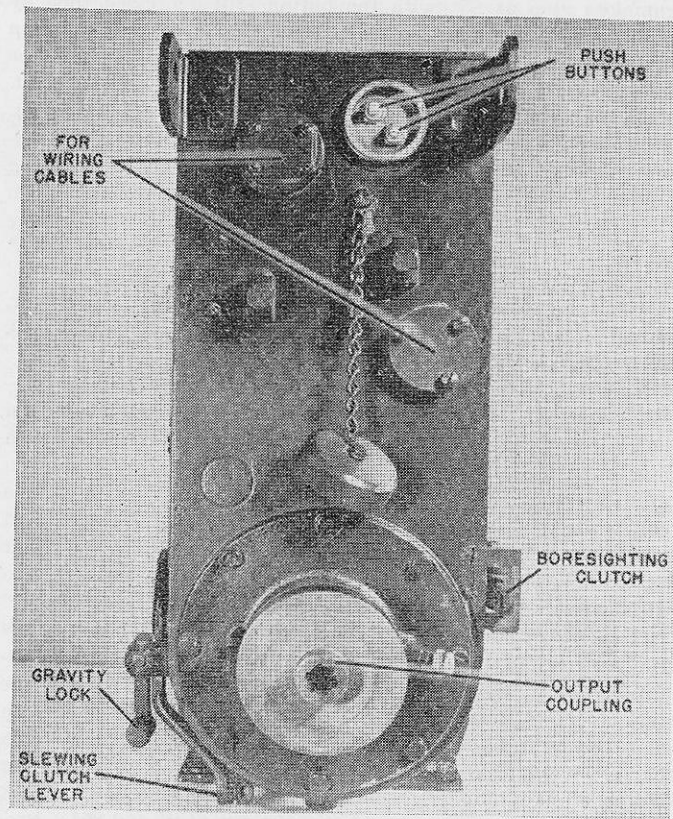
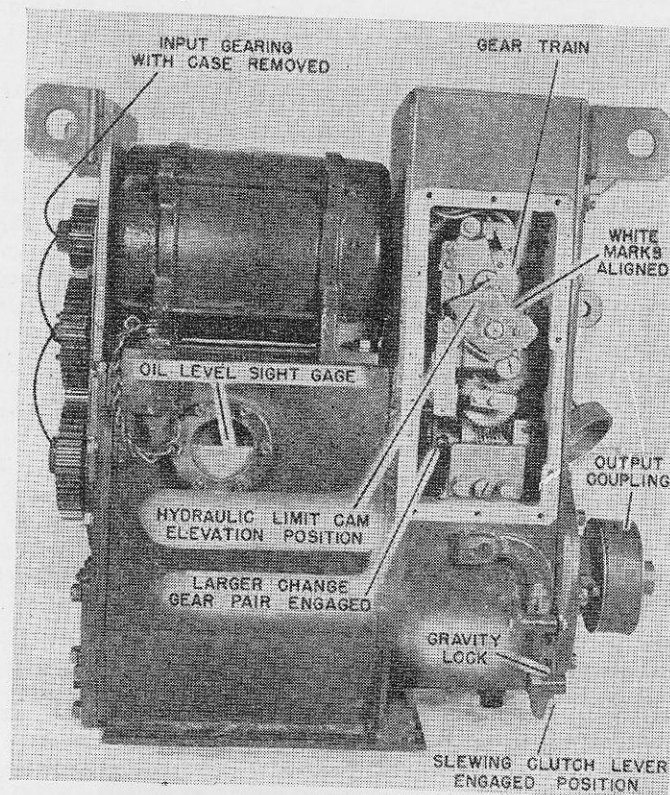
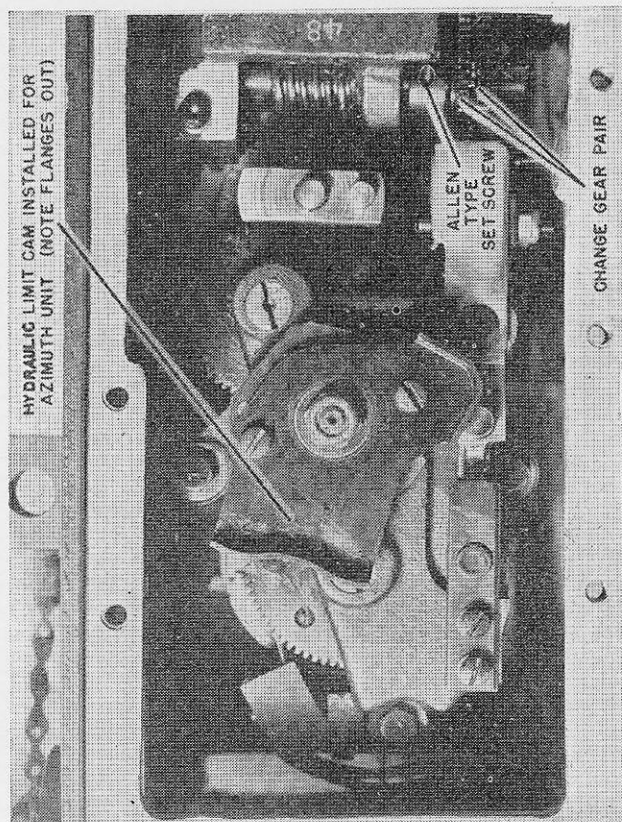

FIGURE 43.—Oil gear unit M3—rear view.
FIGURE 44.—Oil gear unit M3B1—left side view.
FIGURE 45.—Hydraulic limit cam installed for azimuth unit.
■ **136. ELEVATION LIMIT CAM (BY ORIENTATION).**—*Units fully self-synchronous.*—After cables are connected and unit is ready for orientation, disengage oil gear boresighting clutches (fig. 43). Hand crank the gun onto the aiming point and reengage the oil gear boresighting clutches. Orientation is now complete. Do not use the azimuth orienting clutch on the director. The elevation limit switch must remain open while the azimuth controls are being started to prevent generator overload. Power one, and then the other. To stop the remote control system, disengage gun slewing lever and electrical limit switch. Power switch at generator should be opened if both oil gears are off.
(1) Remove the left-hand side cover looking at the coupling end of the unit (fig. 44).
(2) Loosen the Allen type setscrew in the collar of the change gear pair (fig. 45).
(3) To make an azimuth unit slide the change gear pair to the right hand position so that the smaller gear of the sliding pair will then mesh with the right-hand gear on the hydraulic motor shaft. To make an elevation unit, slide the change gear pair to the left, so that the larger gear of the pair meshes with the middle gear on the hydraulic motor shaft (fig. 45).
(4) Check to be sure the proper mesh is obtained and tighten the lock screw securely.
(5) To make an elevation unit, turn the hydraulic limit cam (fig. 44) so that the flanges face inward and will then contact the roller of the limit mechanism. There is a point marked on the cam and on the shaft showing its proper location, by matching the white lines. It may be necessary to slip the limit cam in either direction away from line up position of white marks (fig. 44) in order to get the limit cam to stop the gun at 0° when oriented with director. Thus final adjustments of limit cam, using the two screw heads holding it to the shaft, should be made with gun and director operating. This limit cam will commence to stop the gun 5° before it reaches the limit as set. To make an azimuth unit, turn the limit cam so that the flanges on the cam are toward the outside of case (fig. 45). This prevents it from acting on the limit mechanism.
(6) Replace the side cover.
(7) Remove the top cover over wiring compartment and put switch "on", for all self-synchronous units. If the unit is not self-synchronous (no elevation coarse transmitter in the director) turn switch to "off" position. Replace cover.
(8) To make an azimuth unit, remove the pin through the slewing clutch lever gravity lock (fig. 43) and insert the lock so that in the down position it does not lock the slewing lever.